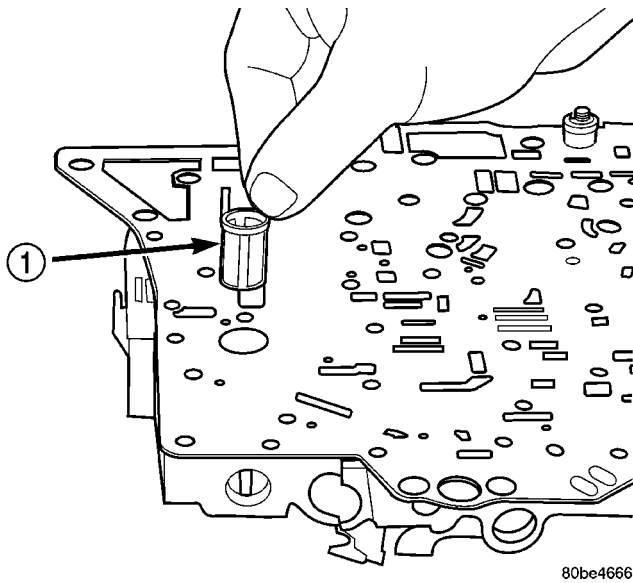

Fig. 340 Install Oil Screen
(9) Install oil screen to separator plate (Fig. 340).